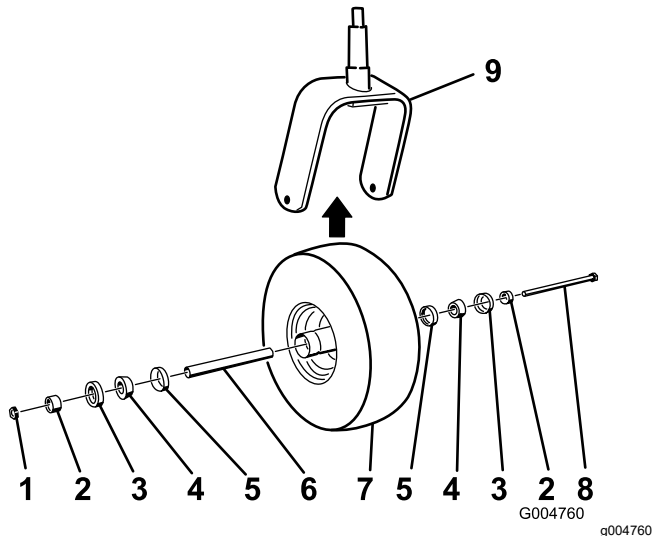

Figure 76
2. Remove the locknut from the bolt (Figure 76).
5. Assemble the caster wheel by pushing the cone bearings and seals, packed with grease, into the wheel hub, positioned as shown in Figure 76.